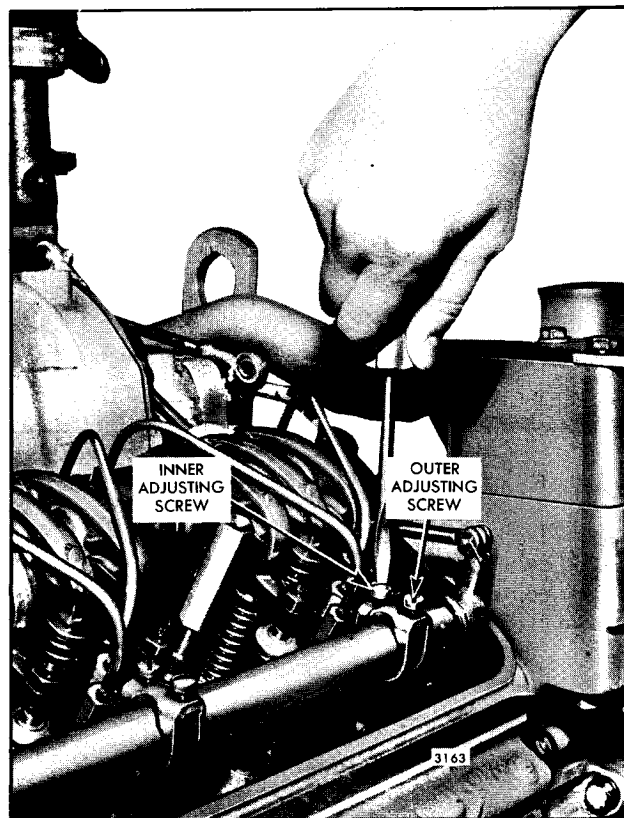

Fig. 2 - Adjusting Injector Rack Control Lever Adjusting Screws
5. Turn down the inner and outer injector rack control lever adjusting screws (see Fig. 2) for the No. 1L and No. 1R injectors until they bottom on the injector control tubes. Then, adjust the screws of the No. 1 cylinders until they all project the same height from the control levers and tighten them securely.